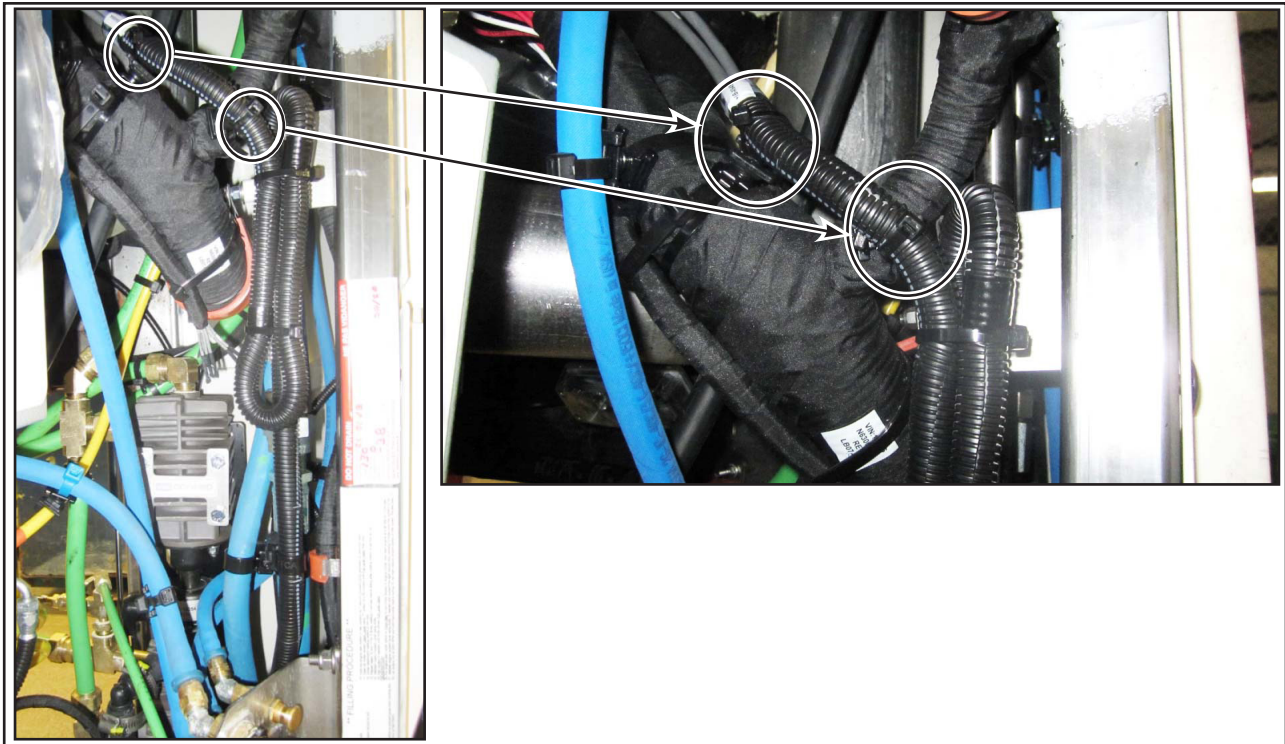

Figure 12 - Install Two Dual Spacer Swivels and Four Cable Ties
1.12. Install two N56836 dual spacer swivels and four G5007995 cable ties (see Figure 12).